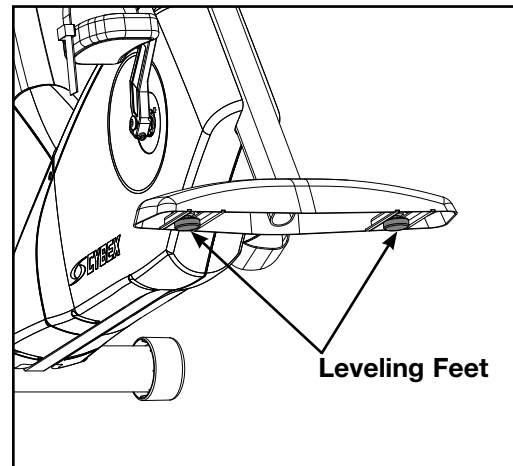

Figure 8
- A.** Confirm that the unit is on a level surface. If not, use a 9/16" open-end wrench to adjust the leveling feet up or down. See Figure 8.